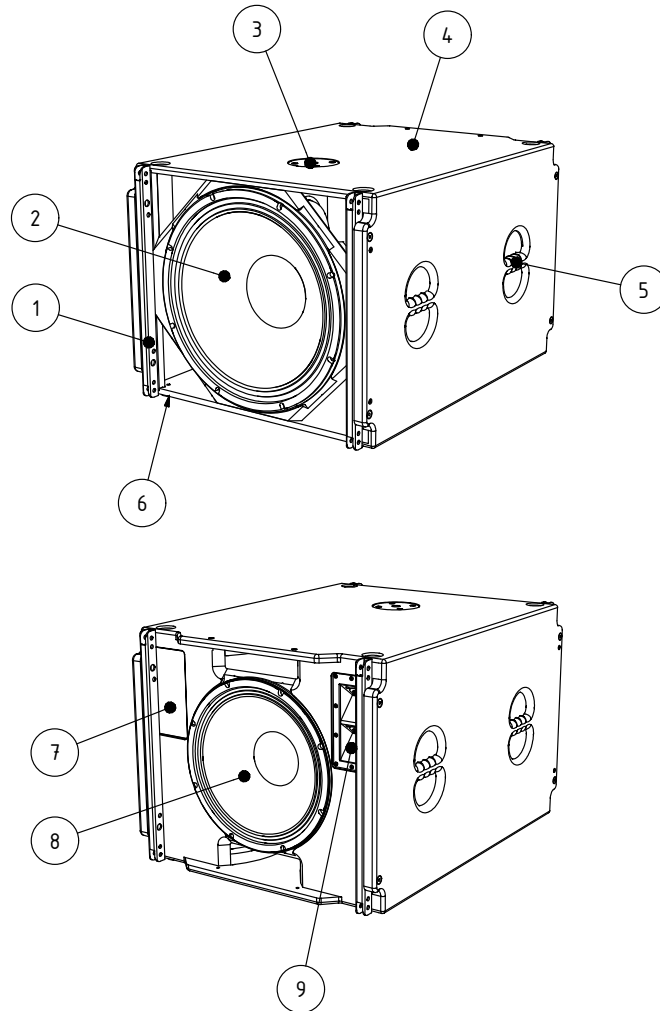

Figure 2.1 - Overview
Make sure that the maximum load of 50kg / 110lbs for the M20 pole mount flange is not exceeded! Figure 2.1 – Item 2.
The M20 pole mount flange (figure 2.1- item 2) is not designed for side forces once mounted – do not apply any pressure from the sides.
Please note that only centered loads are allowed to be placed on the M20 pole mount flange – Figure 2.1 – Item 2.
Please note that the VERAS32 loudspeakers must be mechanically correctly connected with each other. This may only be done via the front and rear rigging tracks (see figure 2.1 - pos.1) and additional box link set BLS!